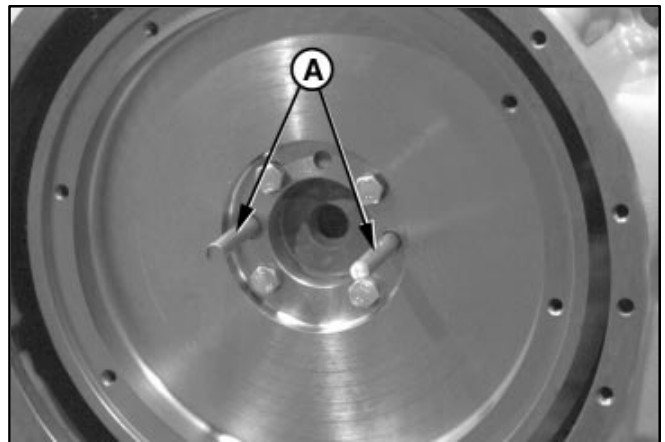

FIGURE 7-43. FLYWHEEL
A. Re-install the guide studs (A) used in removing the flywheel. See Figure 7-43.